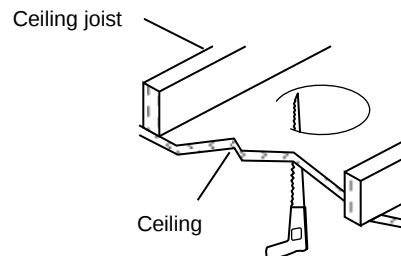

Fig. 1
2. Using a keyhole saw make a 4 1/4" (10.8 cm) hole in the ceiling surface. (Fig. 1) (**Note:** Be sure not to make the hole any larger than specified by the template. An oversized hole may not allow for proper installation.)